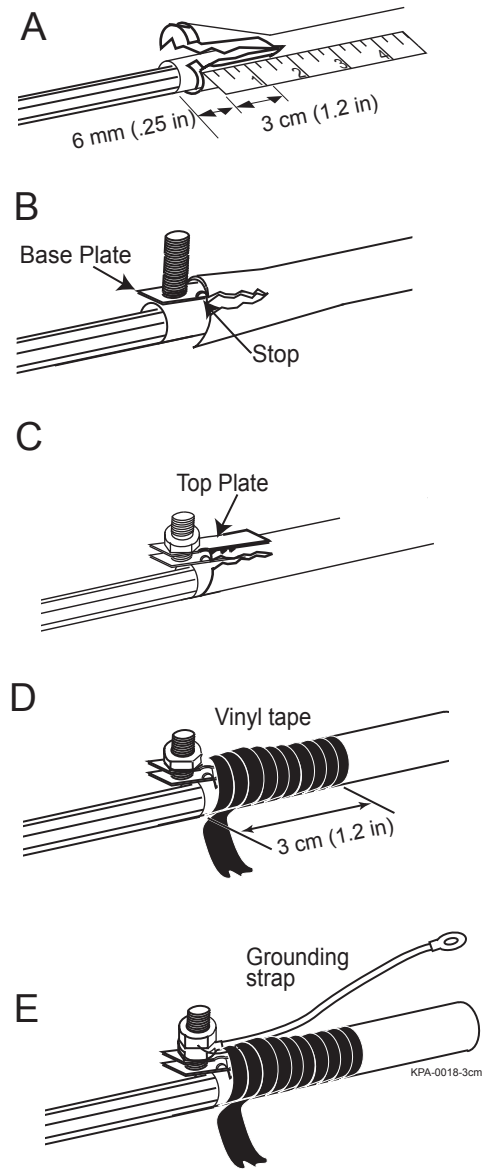

Figure 17
- Step 4:** Ground armored cable as shown in Figure 17.